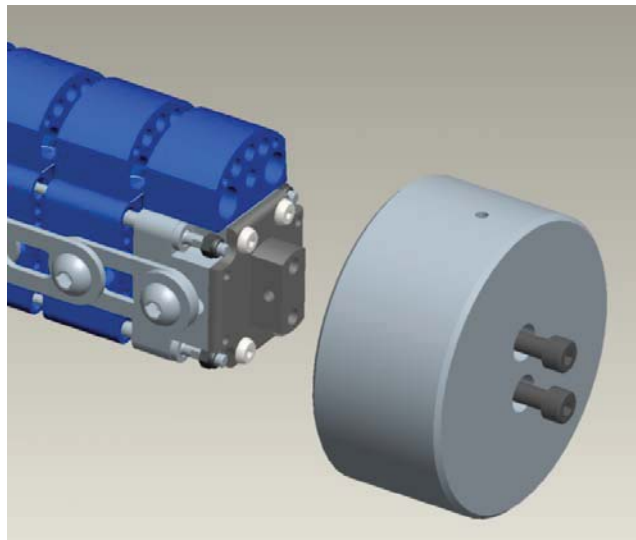
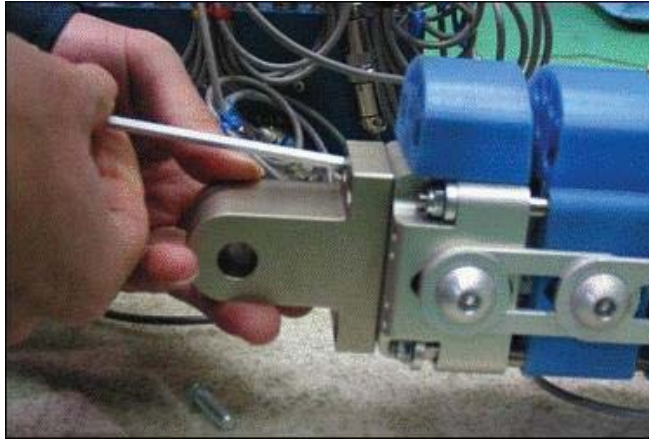

Figure 62 . Attaching Ballast Weight
Figure 63 . Step 9 Attaching Dynamic Rig Pivot Block
The leg assembly is calibrated with the flesh cover parts fitted and the leg is inverted so that the leg pivots from the bottom of the tibia to increase the impact moment on the knee. Remove the end rubber buffers if fitted, 133-5516 and launch guide from the leg. Then fit the 5 kg end weight to the top of the femur using two M8 x50 long cap head bolts see Figure 62. Fit the pivot hinge to the tibia base as per Figure 63 using four M6 x 18 SHCS.
Step 7: Attach the ballast weight as shown in Figure 62 below to the top of the femur using two M8 x 50 long cap head screws
Step 8: Remove the black protective cover from the tibia bottom and attach the pivot block as shown in Figure 63 below using four M6 x 18 long screws.